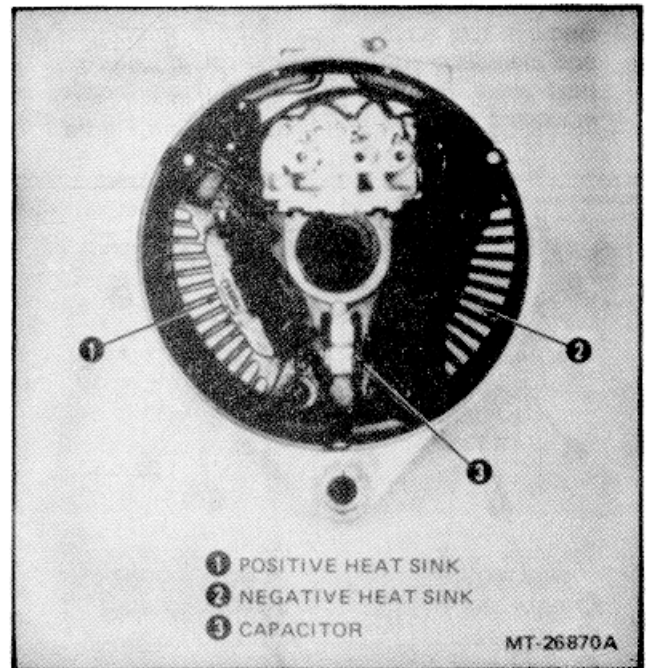

Figure 8 - Heat Sinks and Capacitor.
8. Remove nuts from positive and negative output terminal bolts and remove the bolts. Note the location of the red and black regulator leads on the heat sinks (See Figure 8).
9. Remove three hex head screws and remove capacitor connected between the heat sinks (See Figure 8).
3. Install terminal bolts and regulator lead wires. Red wire goes on positive heat sink and black wire goes on negative. Be sure that mating surfaces of heat sinks, terminals and terminal bolts are clean and free of paint to insure a good electrical connection (See Figure 8).